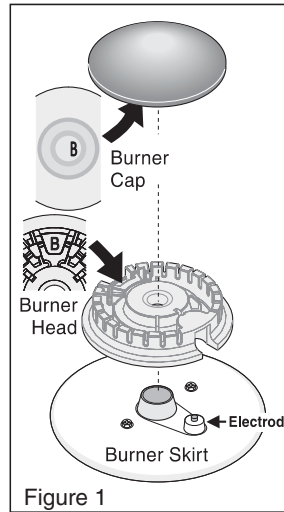
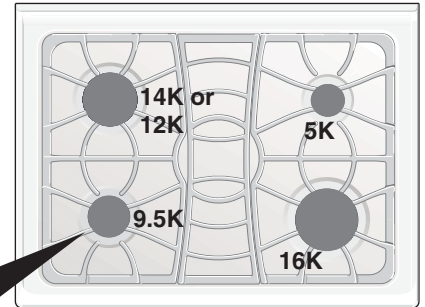
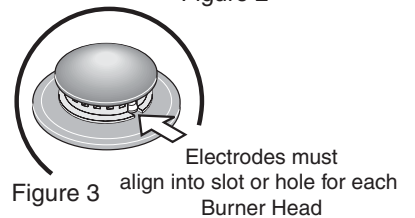

Figure 1
Figure 2
Figure 3
3. To replace the Burner Heads & Caps, match the letters located under center of Burner Caps with the letters located inside Burner Heads (Figure 1).
4. Match Burner Skirts with Burner Heads and Burner Caps (see Figure 1). Replace the Burner Heads and Caps on cooktop (see Figure 2). Carefully align the Electrodes into slot or hole of each Burner Head (Figure 3). Note: The Burner Heads should sit flat on Cooktop Burner Skirts.